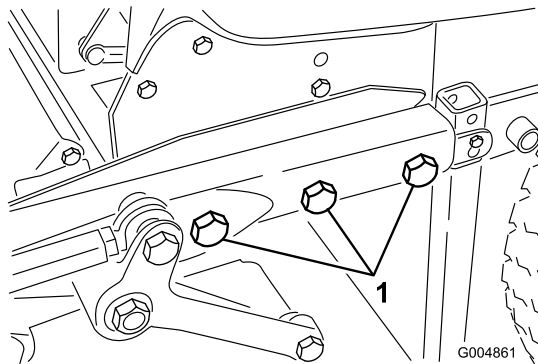

Figure 87
31. Roll the summer deck and frame into position and install the five 3/4" bolts, washers and nuts that connect the deck frame to the rear frame (Figure 87). Remove the lift cylinder pins and rear drive tires (if required) to gain access to the bolts on the right hand side. Torque the bolts to 265 foot pounds.